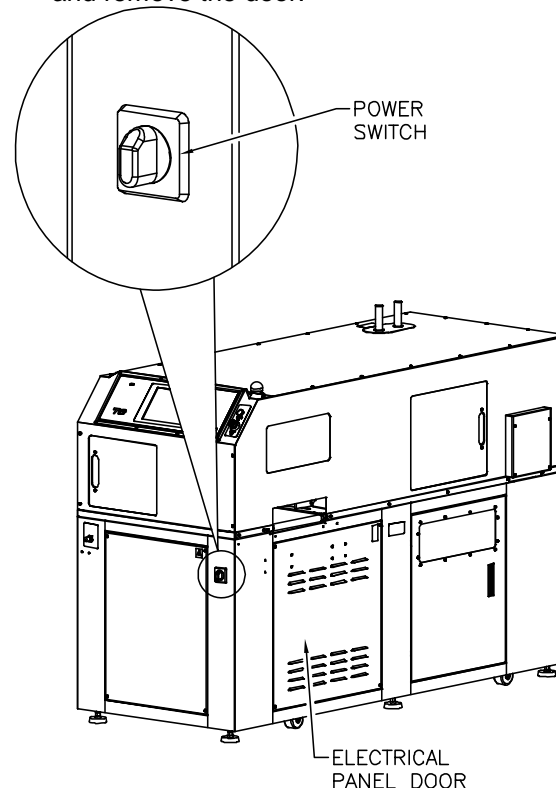

Figure 2-40. Power Panel Door
1. Locate the electrical panel door at the lower right-hand side of the machine (Figure 2-40) and remove the door.